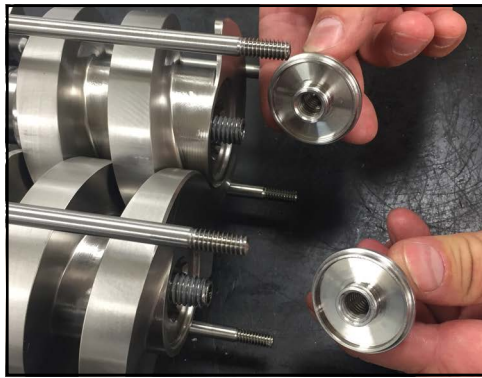

Figure 228 - Install screw nuts
3. Install the screw nuts (without the O-rings or Belleville washers) as shown in Figure 228.